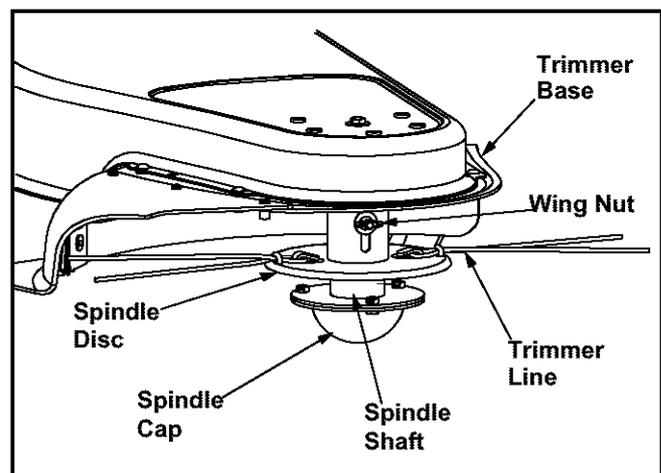

Figure 7
- The trimmer line is connected to the spindle disc, which can be raised or lowered. See Figure 7.
- Loosen the wing nuts and slide the spindle disc to the highest position and tighten to secure in position. Refer to Figure 7.